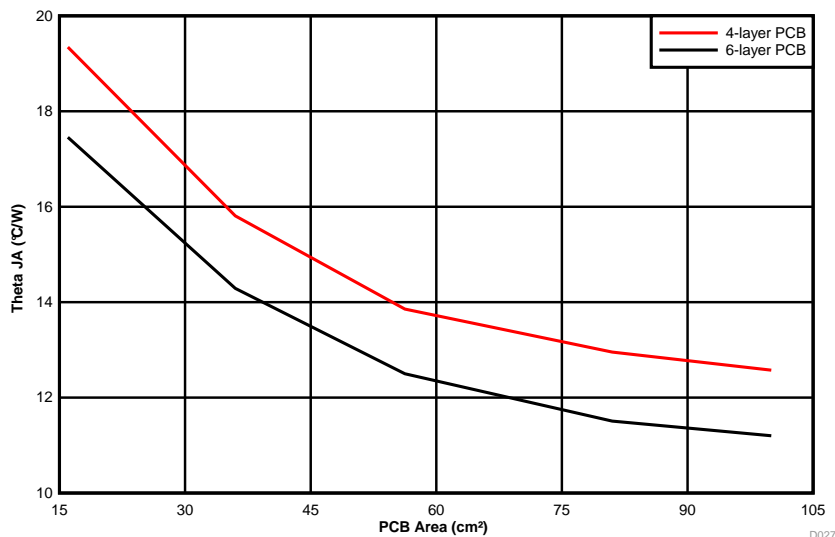

Figure 52.  $\theta_{JA}$  vs PCB Area
The amount of PCB copper effects the thermal performance of the device. Figure 52 shows the effects of copper area on the junction-to-ambient thermal resistance ( $R_{\theta JA}$ ) of the LMZM33606. The junction-to-ambient thermal resistance is plotted for a 4-layer PCB and a 6-layer PCB with PCB area from 16 cm2 to 100 cm2.
3. Reference Figure 52 to determine the minimum required PCB area for the application conditions.